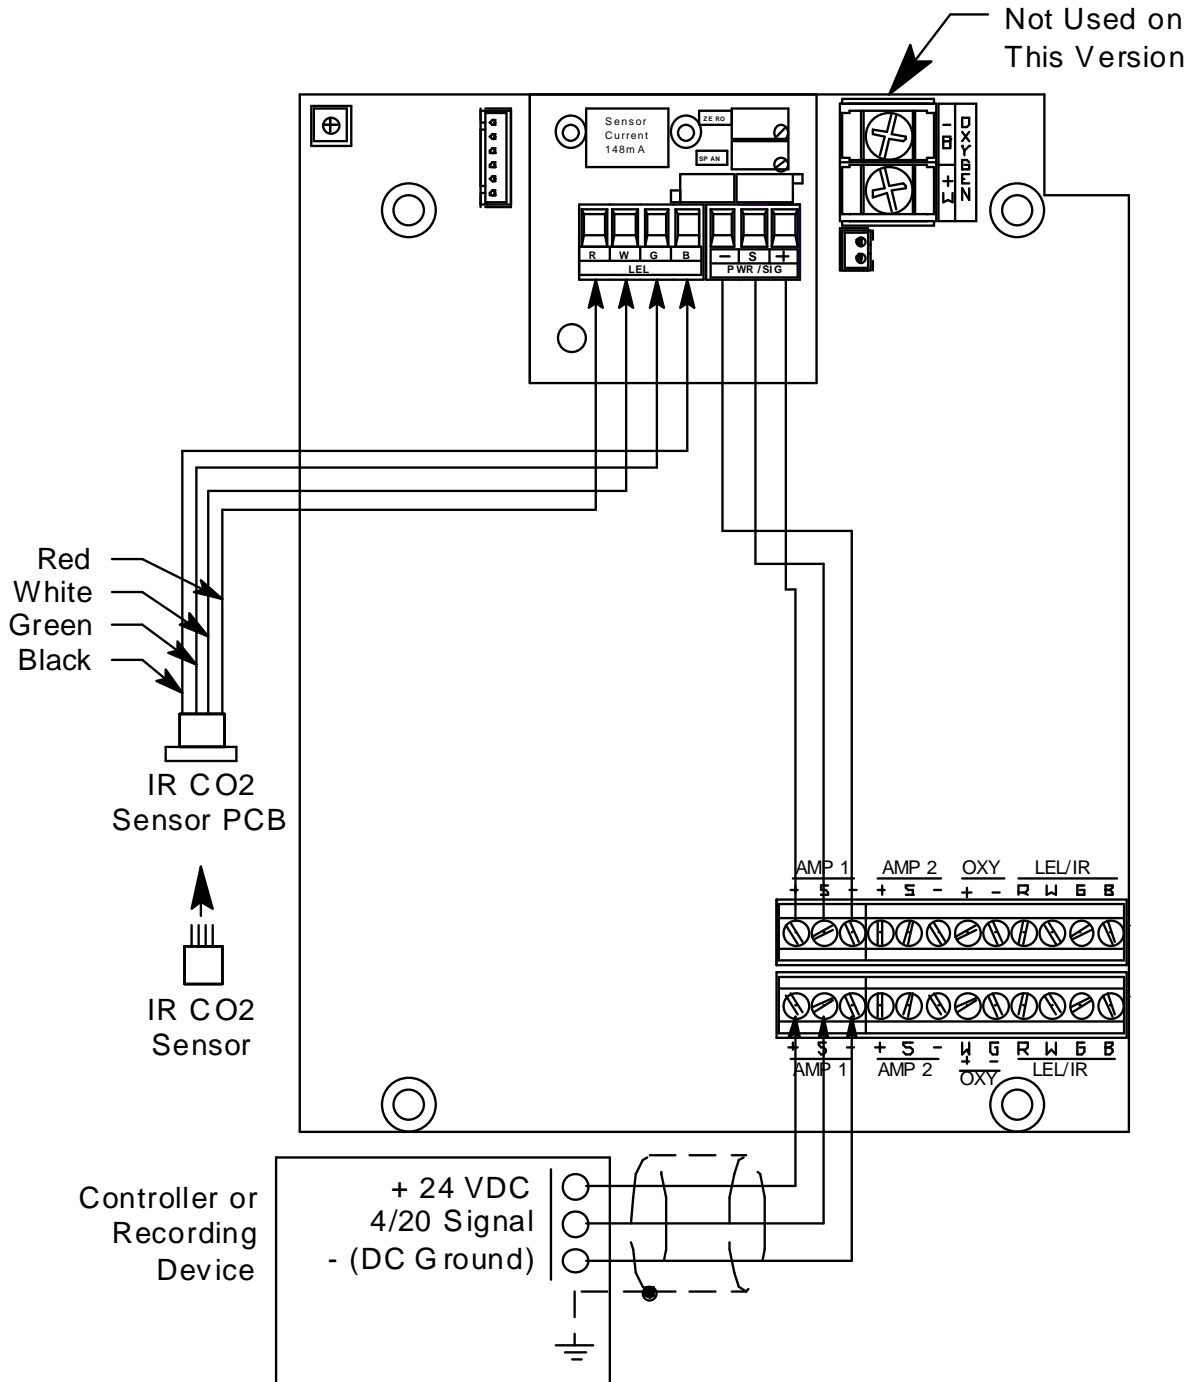

Figure 5: Wiring the Sample-Draw Detector to a Controller
5. Connect the cable to the sample-draw detector’s interconnect terminal strip as shown in Figure 5.
8. Connect the wires to the applicable detector/transmitter terminal strip at the controller as shown in Figure 5. Refer to the controller operator's manual and the controller detector head specification sheet for the 35-3001A-05-02 for detector/terminal strip connections specific to the controller.